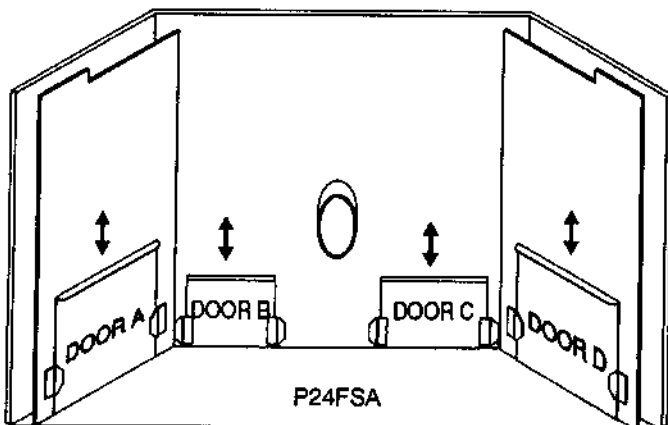

Figure 13A
**B. Interior Chambers** — Four (4) cover plates in the firebox can be removed for periodic cleaning (see figures 13A & 13B). All four doors allow access to the chamber surrounding the firebox.
by removing the stove's left side panel (rear sheet must come off first). The combustion blower is accessed through door C (see figure 13A). The P24I convection and combustion blowers are accessed by pulling stove out of fireplace. The convection blower is on the left (facing stove), combustion blower on the right.